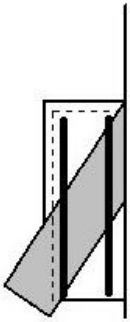

Figure 18. Waist and shoulder strap reinforcement.
- 7.4 Reinforce ends of shoulder strap bottoms and waist belts to inside of oxford side bottoms. Flatten the back and the strap and belt, pulling them tight to make sure it's flat, and stitch around edges of waist belt. Bartack twice as shown on *Figure 18*.